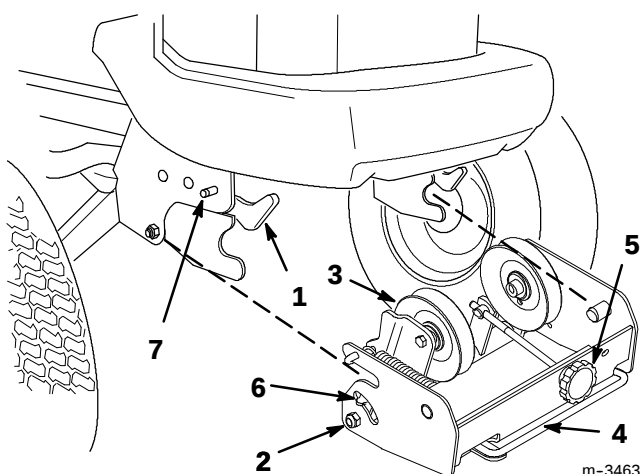

Figure 4
- Attach the pulley box if it is not already on the tractor. Make sure the latches on the tractor's front Attach-A-Matic **t** are open (Fig. 4). Then slide the pulley box into the Attach-A-Matic **t** latches and seat it.